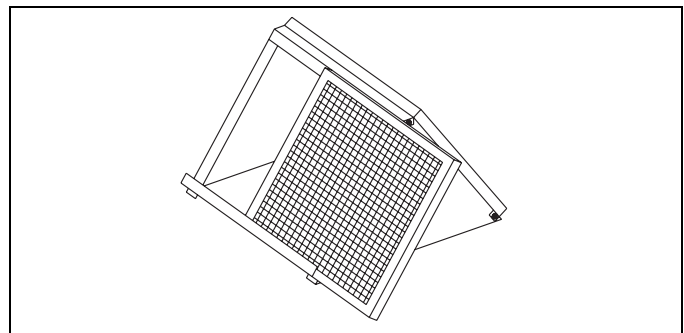

FIGURE 6: Mobile Home Filter Frame
Modular Home downflow furnaces requiring a return duct system by Local, State, or Regional Codes will have the filters located on the top of the furnace in an external filter rack located inside the return air plenum as shown in Figure 6. To check, clean or replace the air filters you should:
2. Filters that are installed in the return air plenum above the blower assembly and are located in an "V" frame assembly that supports the filters as shown in Figure 6.
2. Filters that are installed on the top of the furnace above the blower assembly and are located in an "A" frame assembly that supports the filters as shown in Figure 6.